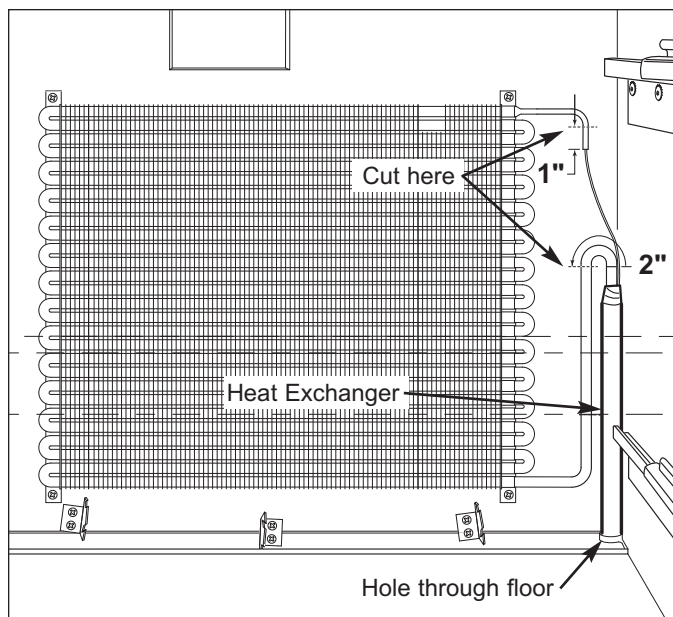

Figure 7-56. Cut Inlet and Outlet at Evaporator
1. Begin removing heat exchanger by cutting the inlet and outlet tubes at evaporator. (See Figure 7-56)